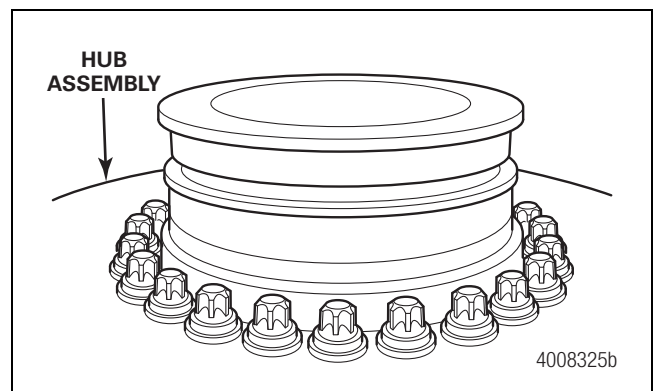
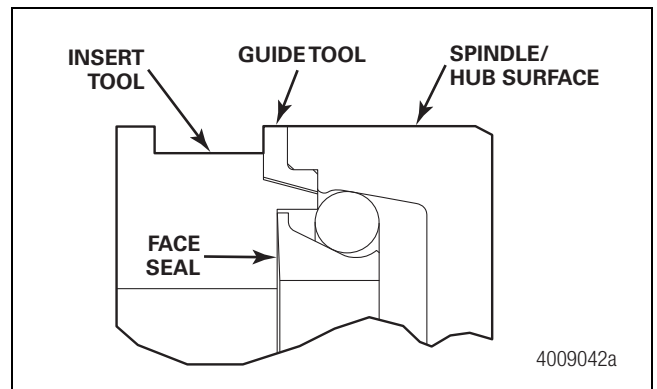

Figure 15.2
Figure 15.3
5. Dip the hub half of the face seal into isopropyl alcohol. While it is still wet, use the special driver to manually install the inner hub seal squarely into the hub assembly. Do not use a hammer or press. Figure 15.2 and Figure 15.3.